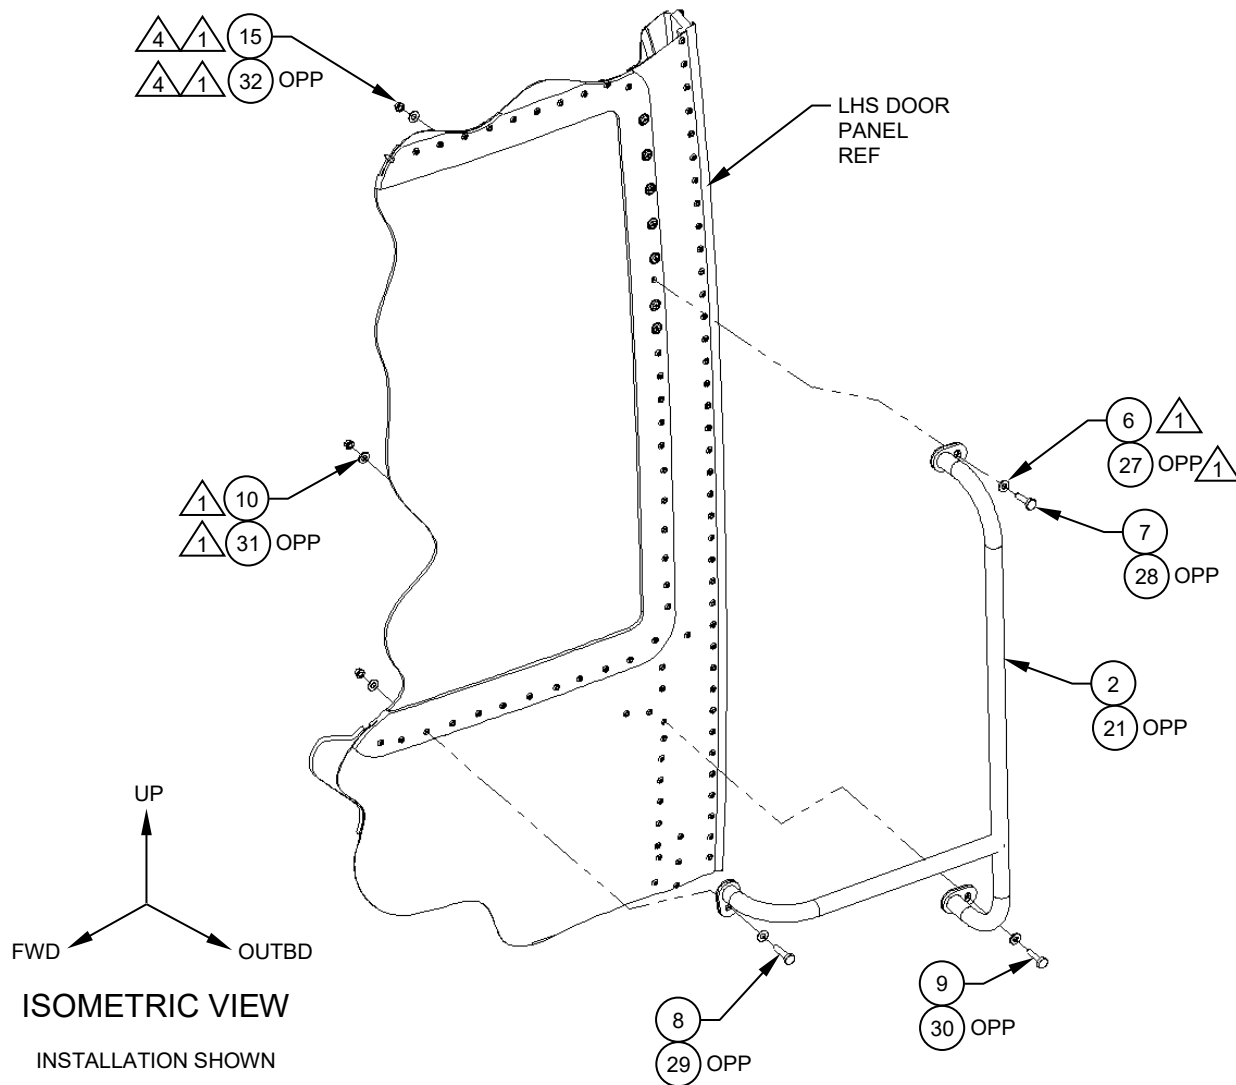

Figure 6
7. Attach the Handle, Assy, LHS/RHS FWD (Item 2, 21 OPP) using the supplied hardware, as shown. Reference Figure 6.